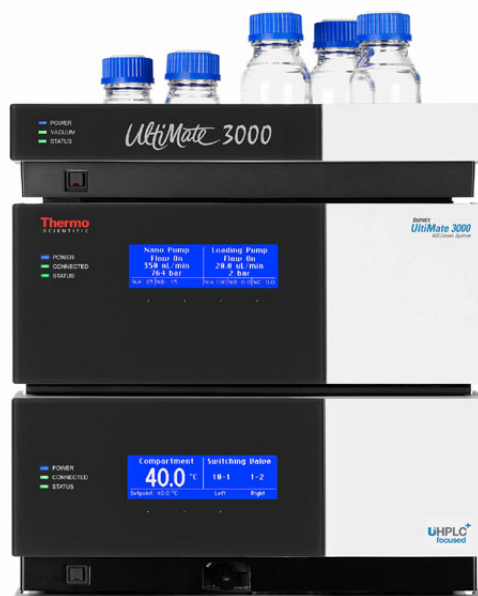

Fig. 24: NCS-3500RS with Solvent Rack
- Make sure that the tubing connecting the pump to the degasser is as short as possible and locate the solvent reservoirs as close as possible to the pump. To avoid formation of air bubbles in the reservoirs and reformation of air bubbles in the solvent, make sure that the reservoirs are on the same level or higher as the pump. Therefore, stack the Solvent Rack onto the module (→ Fig. 24).